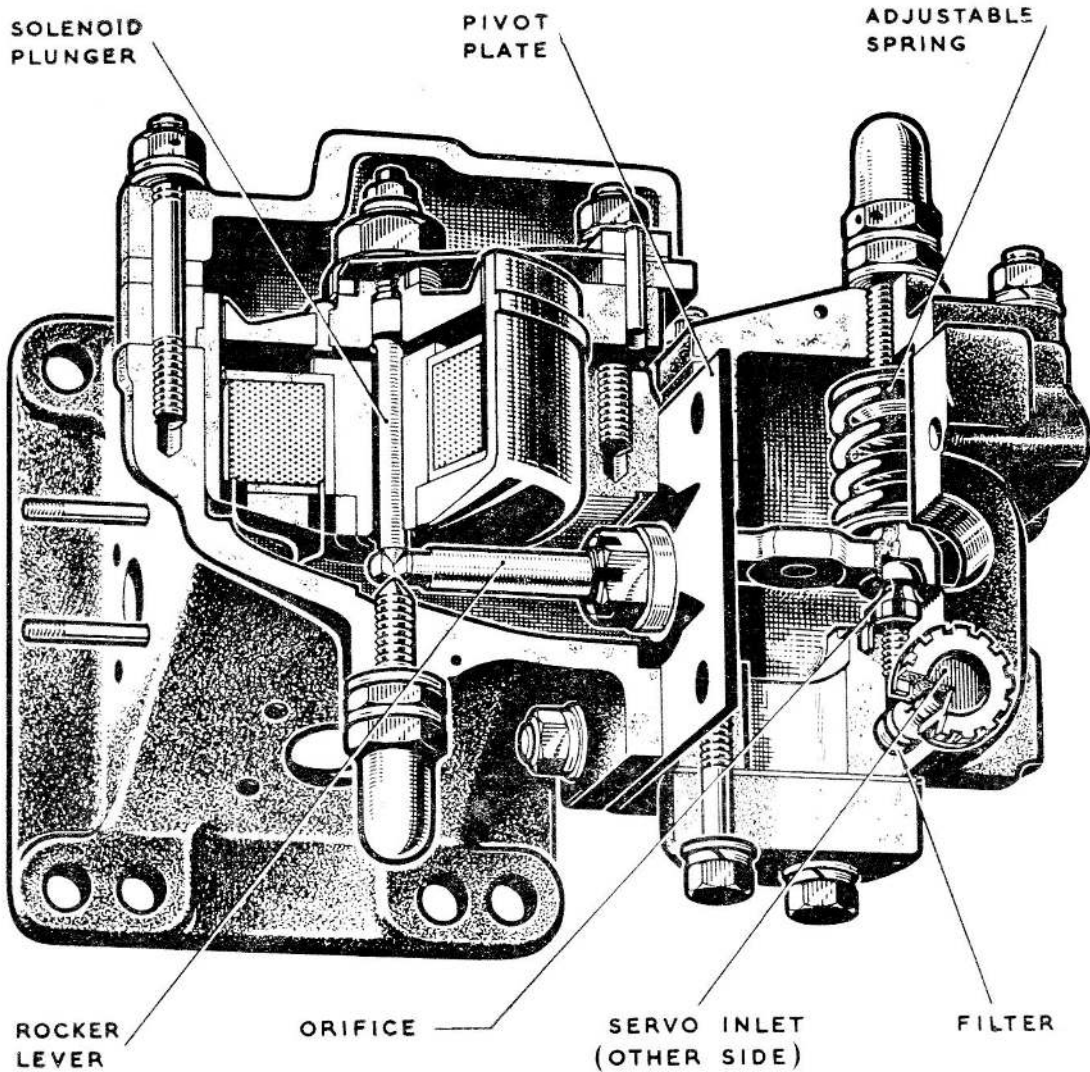

Fig. 2. Arrangement of electric pressure control unit
3. The yoke assembly (*fig. 2*) consists of the solenoid winding
4. The valve chamber (*fig. 2*) contains the calibrated orifice, with the half-ball restrictor